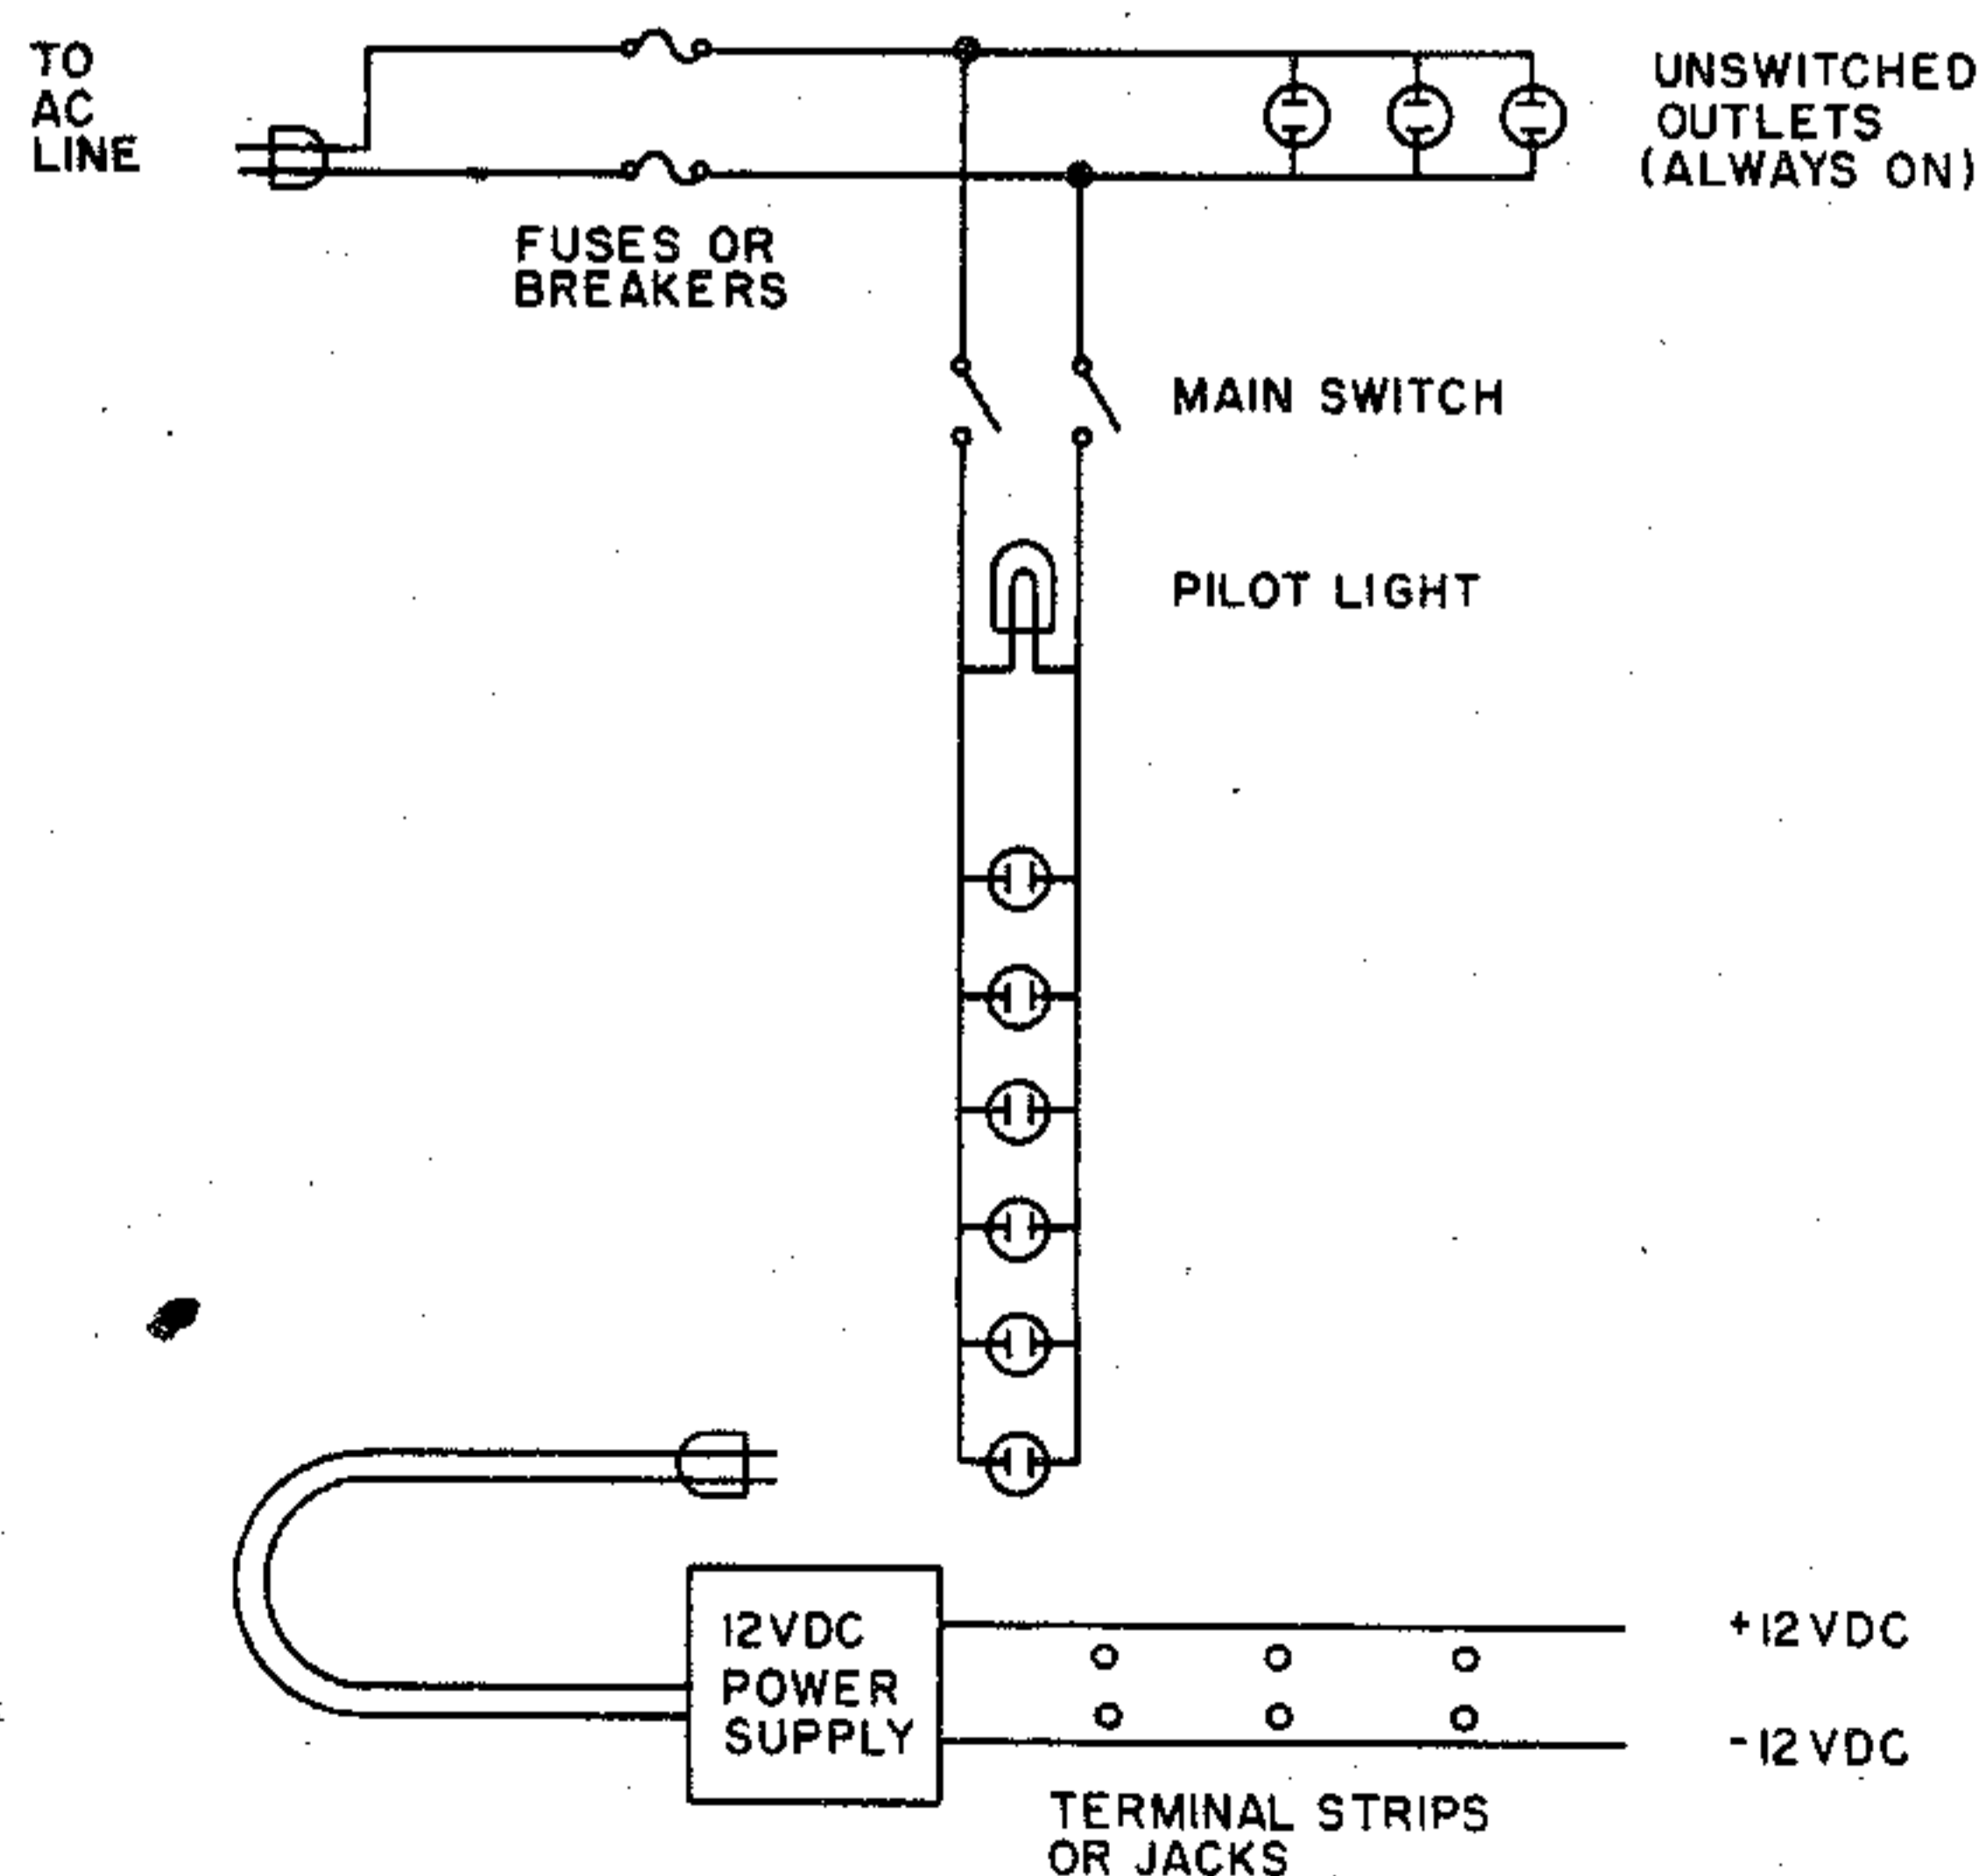

Fig. 1.
**A.** It would be nice if you had a single 120-volt line direct from your house fuse box with 20-Amp service and a second 240-volt line for a linear amplifier. However, most of us end up plugging in a distribution box containing four or eight outlets, a fuse or breaker, a switch, and a pilot light. If you want to use a commercial box, there are several available, but they are only fused on one side; you really want fuses on both sides. See Fig. 1.